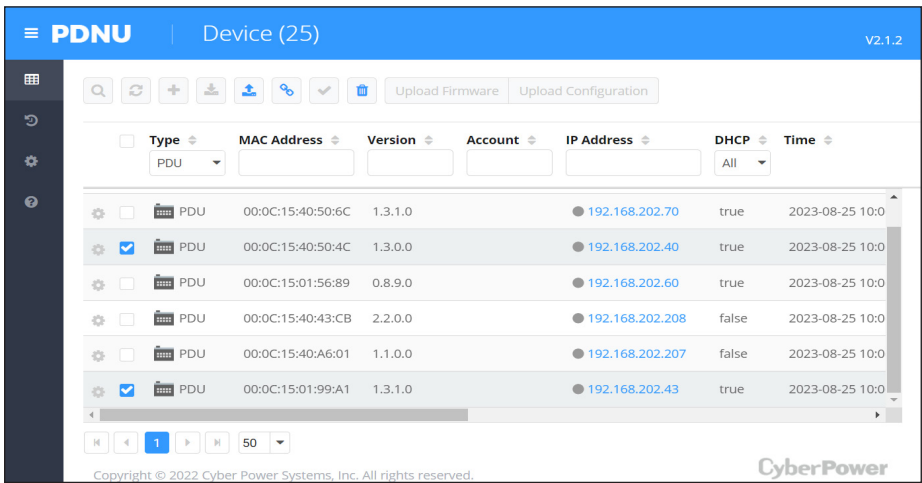

Figure 2
- 4. Check the checkbox to select devices listed in the Operation View (Shown in Figure 2).